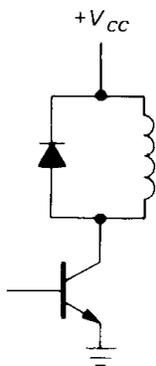

Figure 2.4. Always use a suppression diode when switching an inductive load.
3. For inductive loads, protect the transistor with a diode across the load, as shown in Figure 2.4. Without the diode the inductor will swing the collector to a large positive voltage when the switch is opened, most likely exceeding the collector-emitter breakdown voltage, as the inductor tries to maintain its "on" current from  $V_{CC}$  to the collector (see the discussion of inductors in Section 1.31).